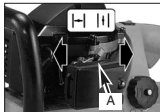

Fig. 3B
4. Your unit is designed with a 2 position choke: CLOSE "I-I" and OPEN "I-I". Move choke lever (A) to CLOSE "I-I" position (Fig. 3B).